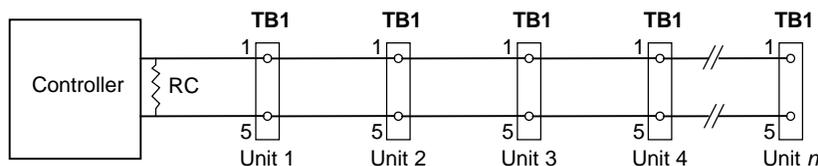

Figure 2-8. Controlling Several 1PCIs Connected in Parallel
1. Connect each unit as shown in Figure 2-8. Refer to Section 2.9.2: Temperature Controller on page 2-4.
3. Connect the remaining units as shown in Figure 2-8.
4. Connect the appropriate impedance matching resistor (**RC**) for your controller across the output terminals of the controller as shown in Figure 2-8. This will assure proper operation of all controllers. **RC** is usually 250Ω or 500Ω .